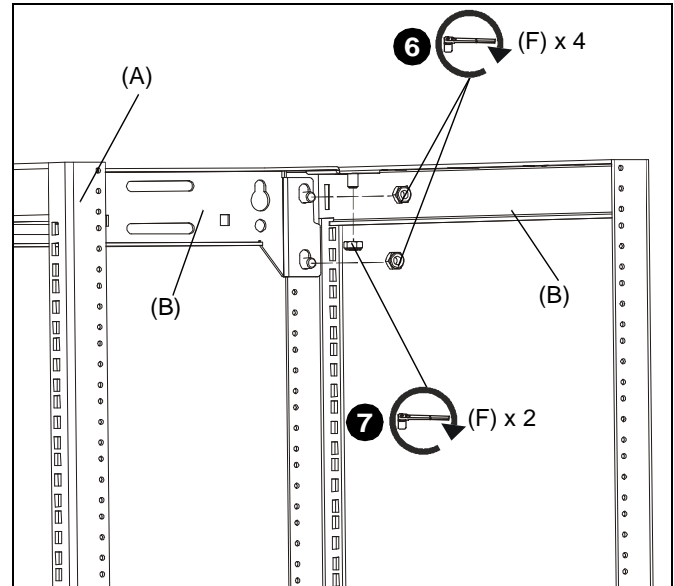

Figure 3
5. Position second brace (C) over upper screw studs on left and right frames (A and B). (See Figure 3)
6. Thread four 1/4-20 hex nuts (F) over vertical studs to secure brace (C) to left and right frames (A and B). (See Figure 3)
7. Thread two 1/4-20 hex nuts (F) over horizontal screw studs to secure brace to right and left frames (A and B). (See Figure 3)